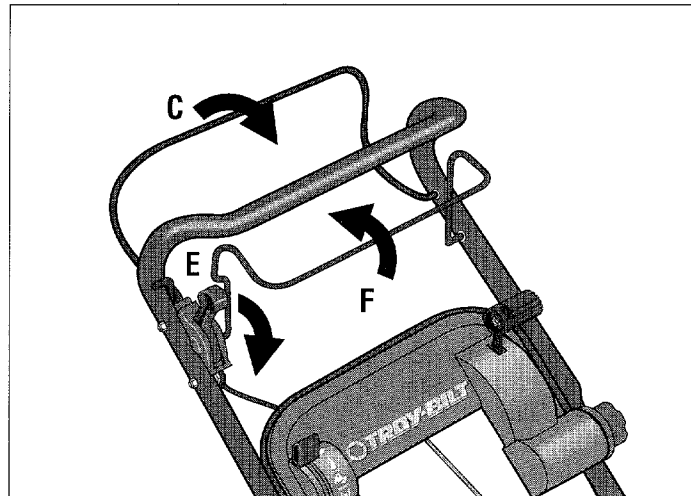

Figure 4-12: Wheel Drive/Blade Brake Control operation.
B. Push the Wheel Drive Control Bar (C, Figure 4-12) up against the handlebar. The mower will move forward at the selected speed.
A. To start the mower blade rotating, pull the Blade Brake Control Bar (F, Figure 4-12) up against the handlebar.
B. Then push the Blade Brake Control Lever (E) forward until the lever latches into place in the forward position. The mower blade is now rotating.
Release the Blade Brake Control Bar (F, Figure 4-12). Doing so automatically disengages the Blade Brake Control Lever (E), and the mower blade stops within three seconds.
Let go of the Wheel Drive Control Bar (C, Figure 4-12) to stop the wheels.